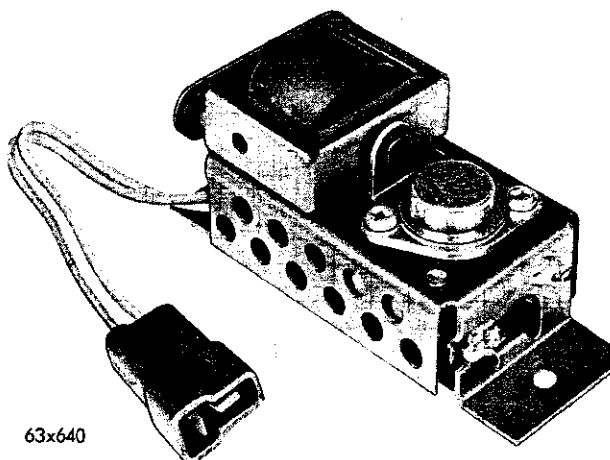

Fig. 92—Power Pack Unit
Electroluminescent is powered from a transistor oscillator, which converts the 12 volt D/C to 200 volts A/C at 250 cycles per second. This power pack (Fig. 92) is mounted on the cowl side panel underneath the instrument panel.
(3) Turn on the instrument panel light switch. If the D/C and A/C indicators both glow, it indicates the A/C power supply is operating satisfactory.
(4) If the D/C indicator glows but the A/C does not, the power unit (Fig. 92) is not operating and should be replaced.
(5) If neither the D/C or A/C indicator glows, it indicates the D/C circuit (orange lead) is incomplete. Test with D/C voltmeter to locate the failure on the D/C input side of the power unit.
(6) If both the D/C and A/C indicators glow but the panel does not light up test for a short, circuited lamp by disconnecting each lamp in succession and touch the test prod on the white test lead from the